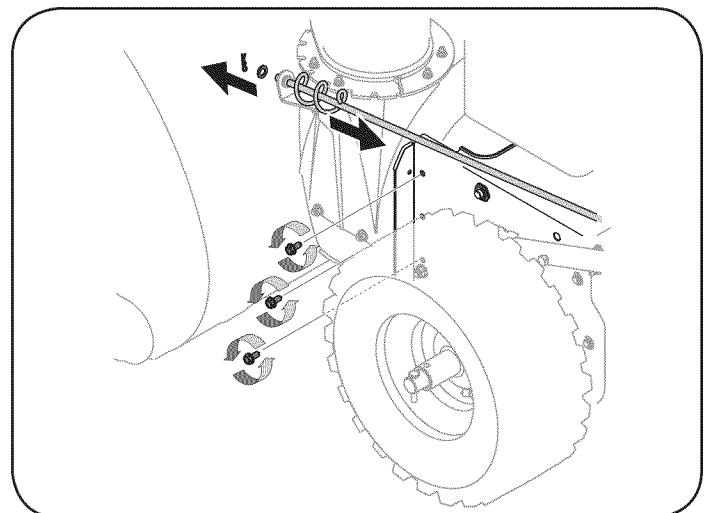

Figure 23
1. Disconnect the chute crank assembly at the discharge chute end by removing the hairpin clip and the flat washer. Refer to Figure 23.
4. From both sides of the the frame assembly, use a 1/2" wrench to remove the three hex tap screws securing the frame to the auger housing assembly. Refer to Figure 23 on previous page.